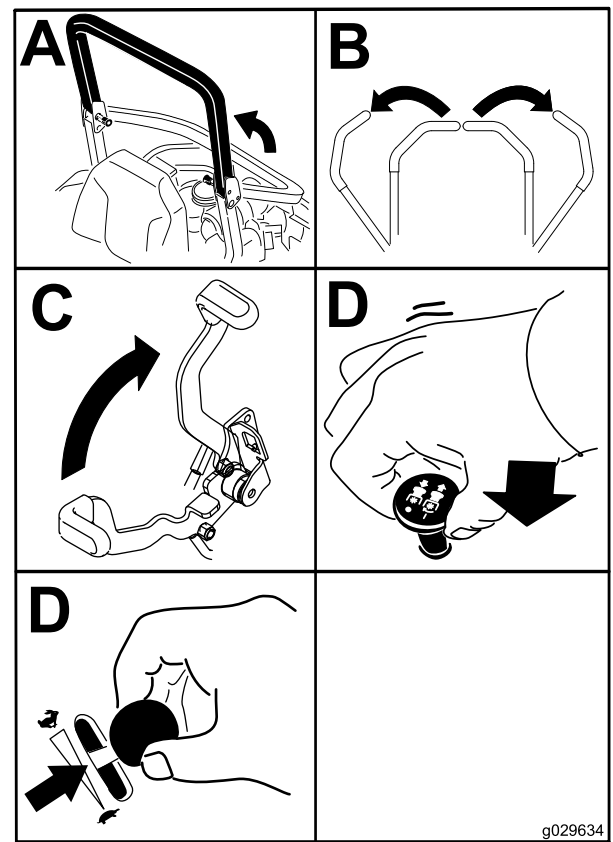

Figure 20
4. Move the blade-control switch (PTO) to the OFF position (Figure 20).